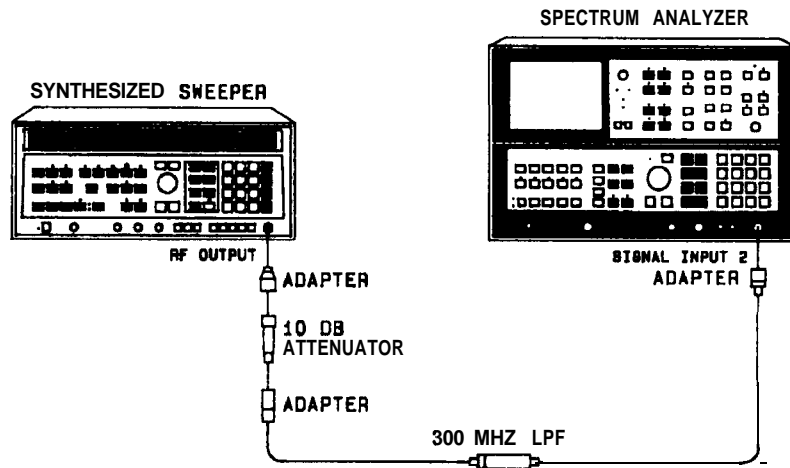
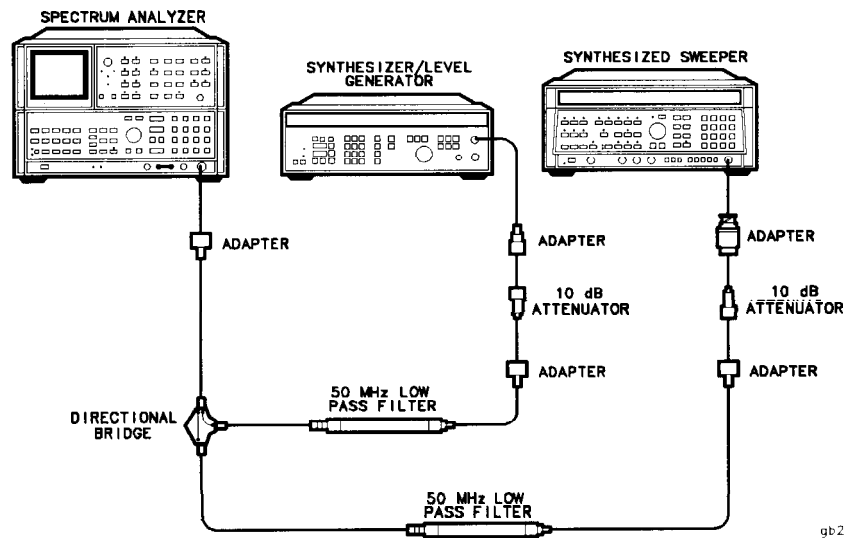

Figure 2-25. Harmonic Distortion Test Setup
Figure 2-26. Intermodulation Distortion **T**est Setup
Equipment listed is for two test setups, Figure 2-25 and Figure 2-26.
1. Connect equipment as shown in Figure 2-25.
11. Connect equipment as shown in Figure 2-26.